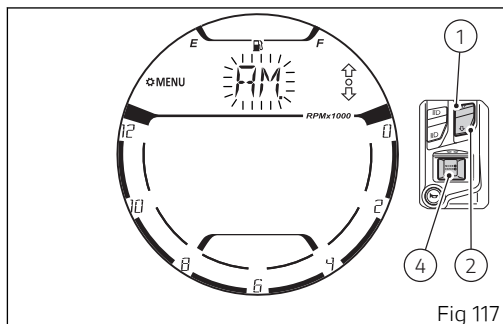

Fig 117
The first parameter that can be modified is AM / PM. The value currently set is displayed flashing (Fig 117). Use buttons (1) and (2) to toggle from "AM" to "PM" and vice versa.